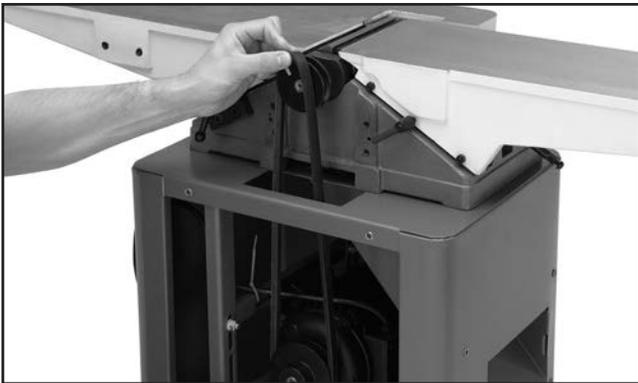

Figure 15. Installing V-belt.
2. Lift the motor up far enough to allow the V-belts to be placed around the cutterhead pulley and the motor pulley (see **Figure 15**).